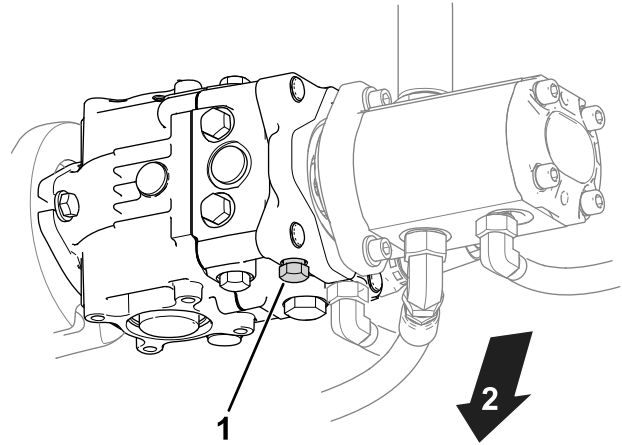

Figure 29
1. Locate the bypass valve on the pump (Figure 29).